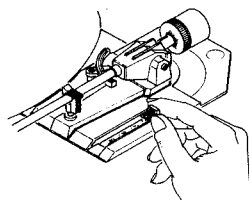

Fig. 15
2. Slide the anti-skating knob to align its index mark with the "0" mark. (Fig. 15)